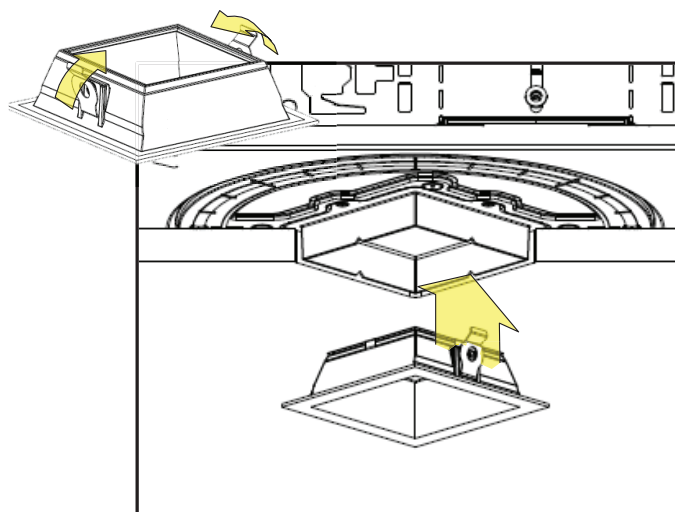

fig. 17
- a. Compress the springs and push into the downlight aperture until the trim is flush to the ceiling. Ensure that the springs are properly compressed and are going into the collar, not around the collar (see fig. 17).